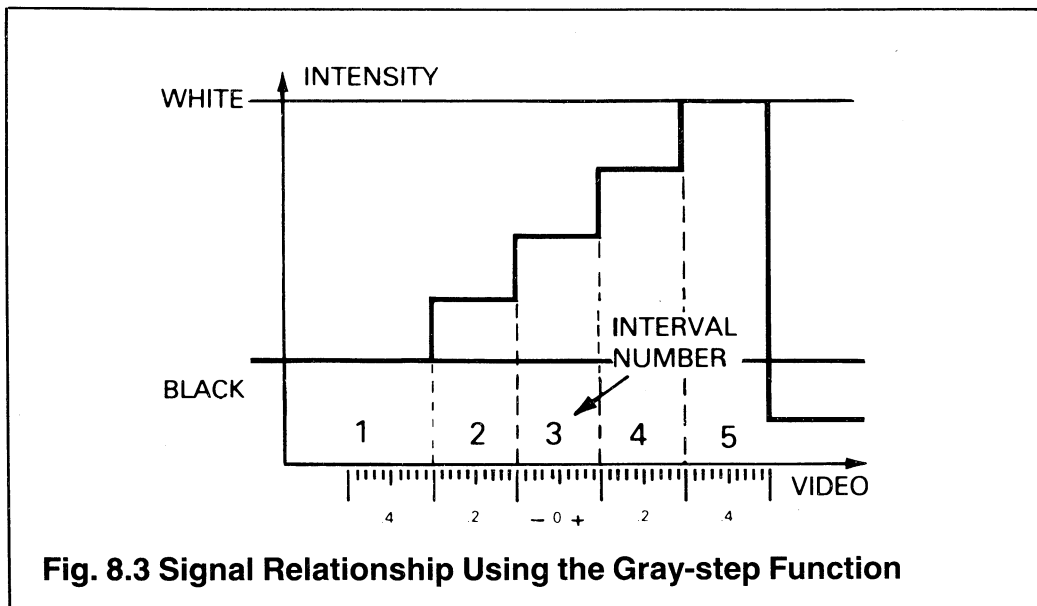

Fig. 8.3 Signal Relationship Using the Gray-step Function
- (e) Read the isotherm scale values at the top edge of both isotherm markers, calculate the difference and multiply by the THERMAL RANGE setting (see figure 8.3).
When using the gray-step function, the video image is quantised into five intervals as shown in Fig. 8.3. All thermal amplitudes outside the scale, i.e. amplitudes below and above ± 0.5 , are displayed as black.